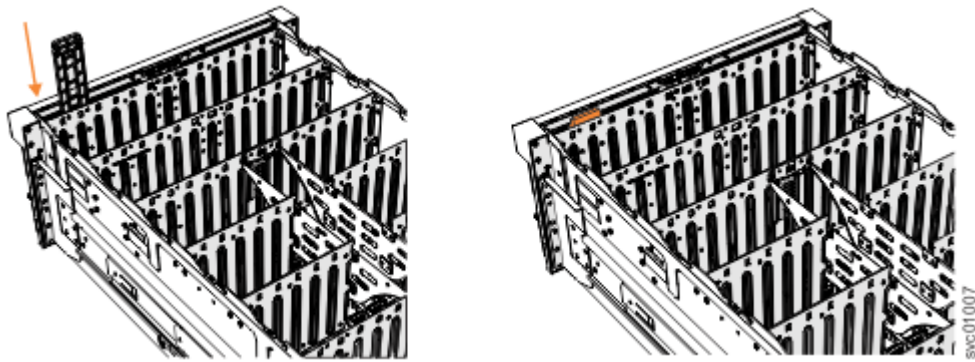

Figure 176. Installing the display panel assembly
6. Carefully align the display panel assembly in the slot at the front of the expansion enclosure, as shown in Figure 176 on page 206.